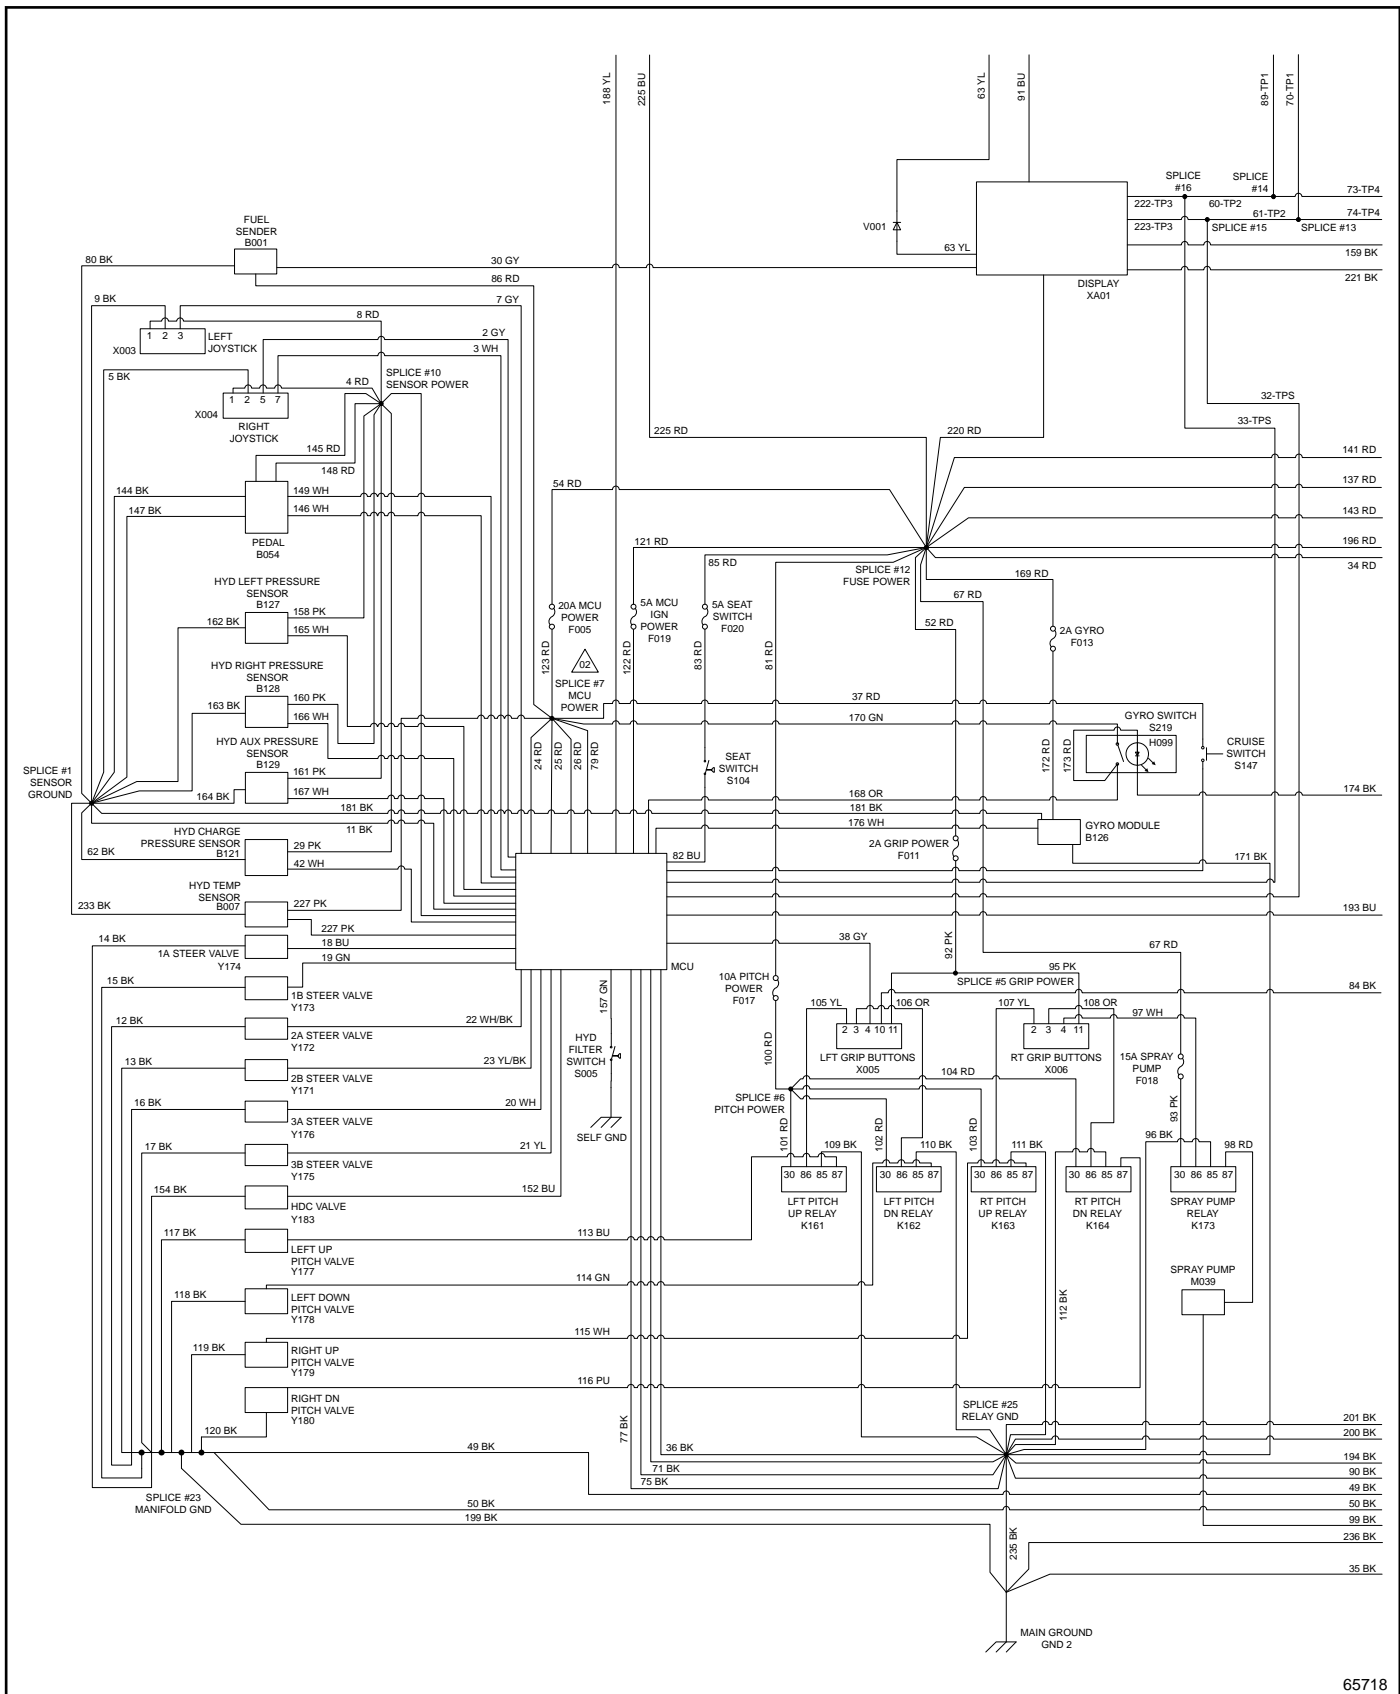

Figure 3-6: Electrical Schematic
- F011—Grip Power Fuse (2 AMP) (See "Figure 3-6" on page 3-16)
- F013—Gyro Fuse (2 AMP) (See "Figure 3-6" on page 3-16)
- F017—Pitch Power Fuse (10 AMP) (See "Figure 3-6" on page 3-16)
- F018—Spray Pump Fuse (15 AMP) (See "Figure 3-6" on page 3-16)
- F019—MCU Ignition Power Fuse (5 AMP) (See "Figure 3-6" on page 3-16)
- F020—Seat Switch Fuse (5 AMP) (See "Figure 3-6" on page 3-16)
- K161—Left Pitch Up Relay (See "Figure 3-6" on page 3-16)
- K162—Left Pitch Down Relay (See "Figure 3-6" on page 3-16)
- K163—Right Pitch Up Relay (See "Figure 3-6" on page 3-16)
- K164—Right Pitch Down Relay (See "Figure 3-6" on page 3-16)
- K173—Spray Pump Relay (See "Figure 3-6" on page 3-16)
- M039—Spray Pump (See "Figure 3-6" on page 3-16)
- S005—Hydraulic Filter Switch (See "Figure 3-6" on page 3-16)
- S104—Seat Switch (See "Figure 3-6" on page 3-16)
- S147—Cruise Switch (See Figure 3-6)
- S219—Gyro Switch (See "Figure 3-6" on page 3-16)
- X003—Left Joystick (See "Figure 3-6" on page 3-16)
- X004—Right Joystick (See "Figure 3-6" on page 3-16)
- X005—Left Grip Buttons (See "Figure 3-6" on page 3-16)
- X006—Right Grip Buttons (See "Figure 3-6" on page 3-16)
- XA01—Display (See "Figure 3-6" on page 3-16)
- Y171—2B Steer Valve (See "Figure 3-6" on page 3-16)
- Y172—2A Steer Valve (See "Figure 3-6" on page 3-16)
- Y173—1B Steer Valve (See "Figure 3-6" on page 3-16)
- Y174—1A Steer Valve (See "Figure 3-6" on page 3-16)
- Y175—3B Steer Valve (See "Figure 3-6" on page 3-16)
- Y176—3A Steer Valve (See "Figure 3-6" on page 3-16)
- Y177—Left Up Pitch Valve (See "Figure 3-6" on page 3-16)
- Y178—Left Down Pitch Valve (See "Figure 3-6" on page 3-16)
- Y179—Right Up Pitch Valve (See "Figure 3-6" on page 3-16)